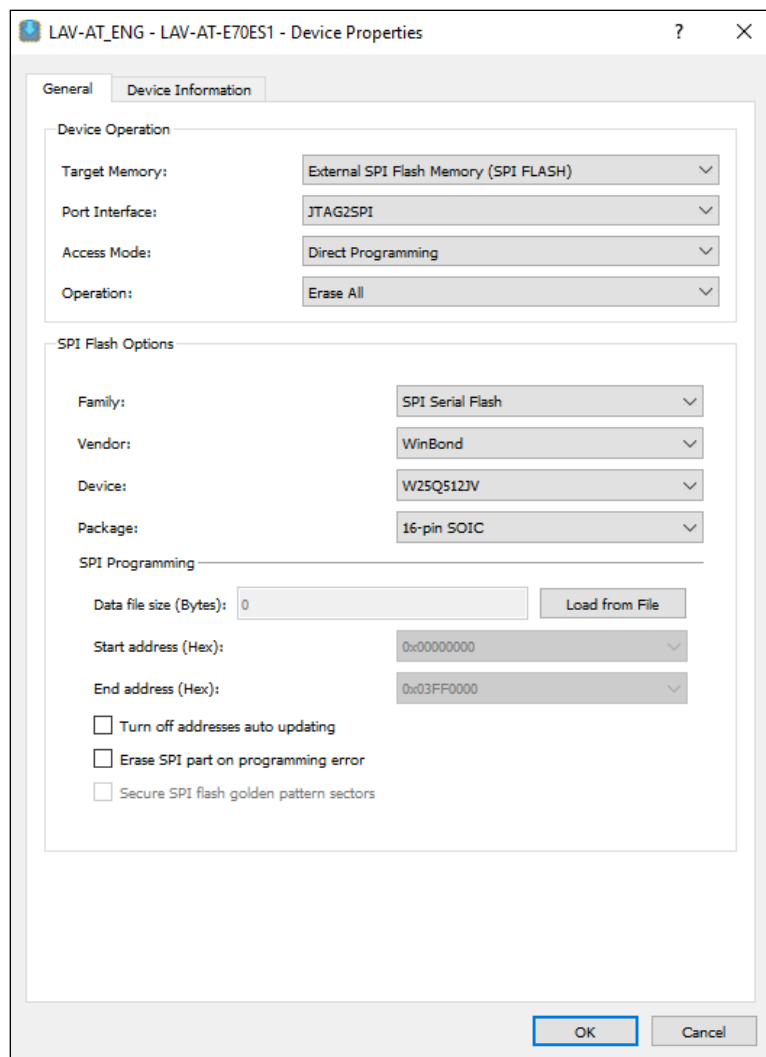

Figure 7.15. Device Properties to Erase the SPI Flash
- Before programming, you need to erase the entire SPI Flash Memory by applying the settings shown in Figure 7.15.